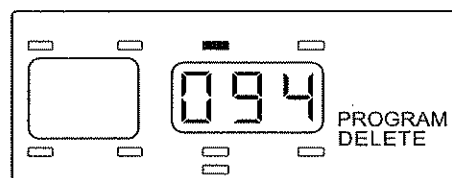

Figure 2-22
2. When you have selected the location press and hold the **SET** button for three seconds. The three-digit number will flash twice and the beeper will beep twice to confirm that this position has been deleted. A different position will be displayed and the tire location that was deleted will now be gone (see Figure 2-22).